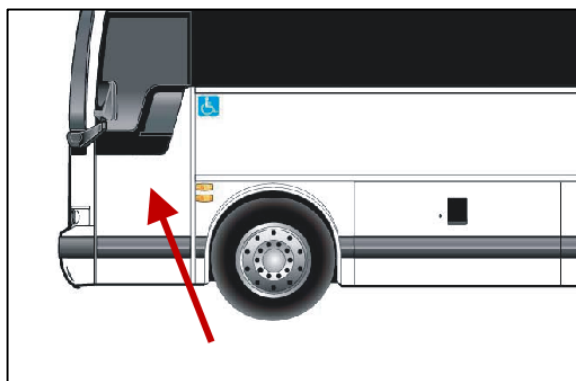

FIGURE 3
5. Locate the front service compartment (Figure 3).